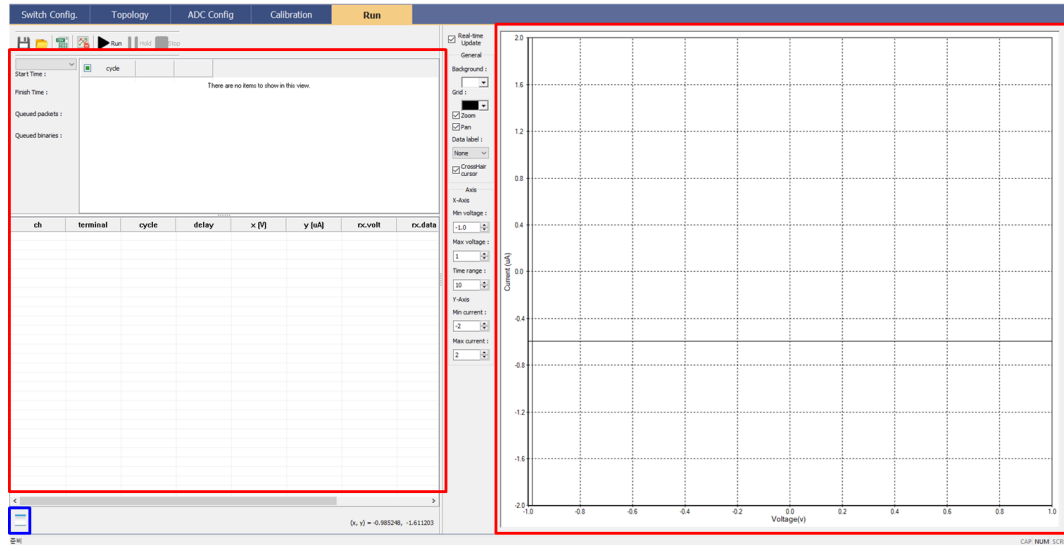

Figure 11 Run tab Data Display
- **Data Display(Figure 11):**